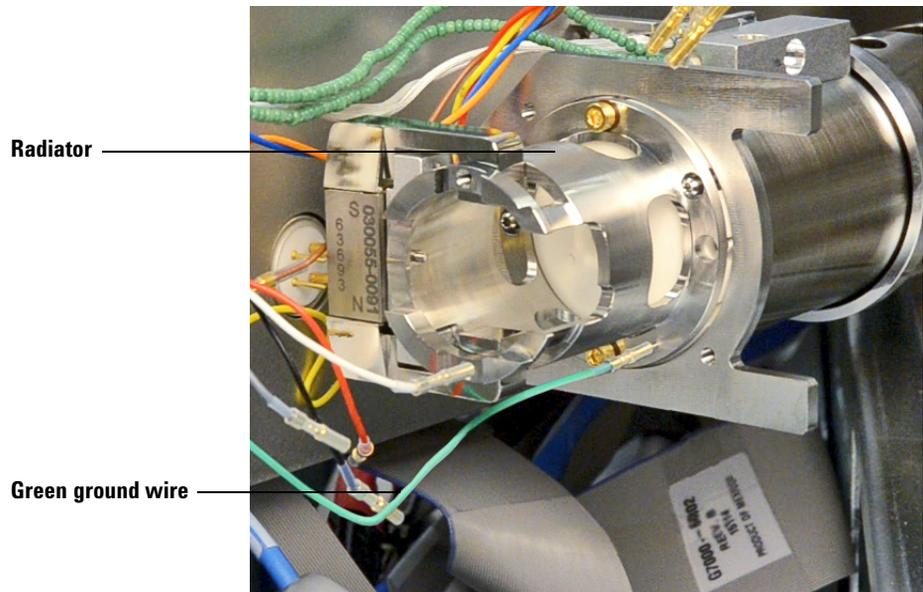

Figure 67 CI Source radiator
- 2 Disconnect the green ground wire from the radiator. (See Figure 67.)